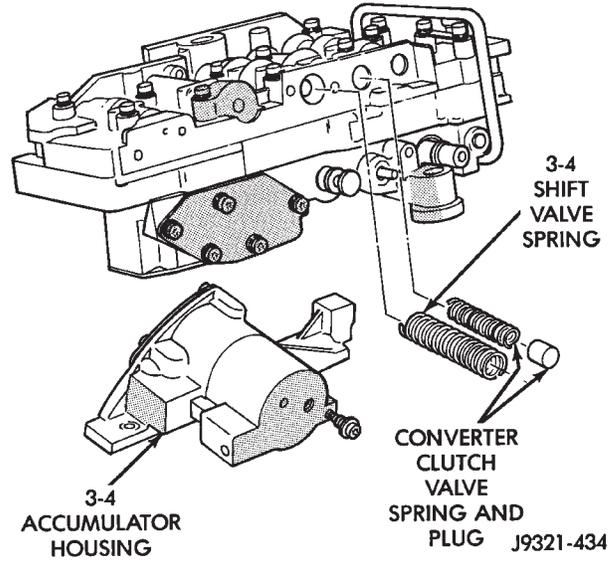

Fig. 81 Accumulator Housing, Valve Springs And Plug
(25) Remove left-side screw and remove 3-4 accumulator housing from valve body (Fig. 81).